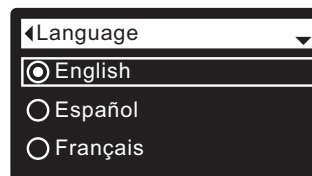

FIG. 111
5. Press the SELECT (O) button to display the Language menu (See Figure 111).
6. If the desired language already has a dot next to it (See Figure 111), go to Step 7. Otherwise, press the DOWN (▼) or UP (▲) buttons to scroll to the desired language, then press SELECT (O) to choose it. The choices are: English, Spanish, French, Italian, German, Dutch, Polish, Russian, Hungarian, Turkish, Lithuanian, Greek, Romanian, Czech, Slovak, Bulgarian, Serbian or Croatian.